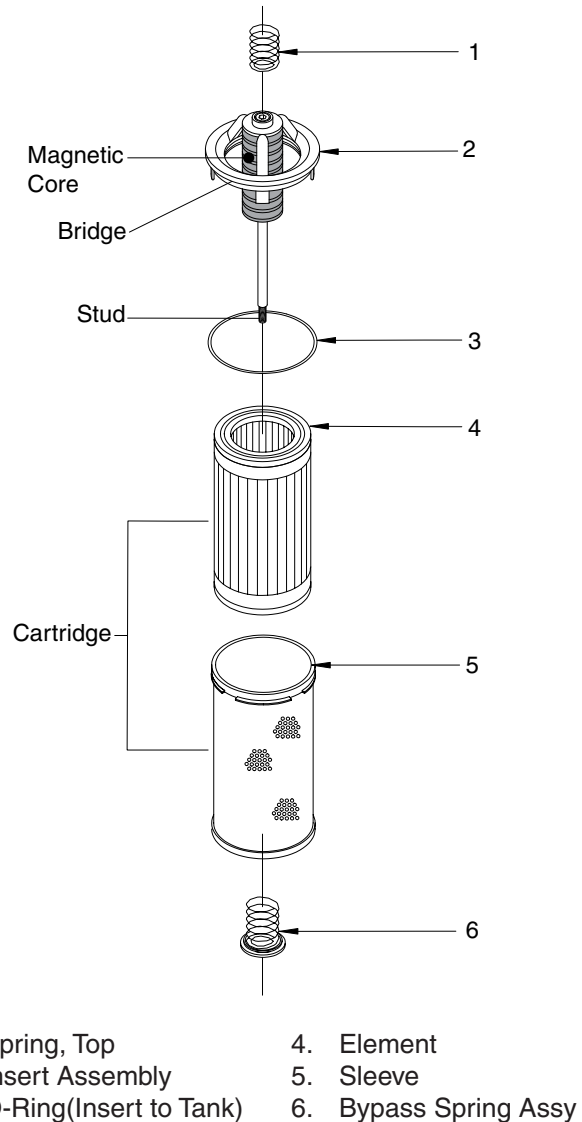

Figure 3 Return Filter Assembly
5. Remove the bypass spring assembly (see Figure 3).